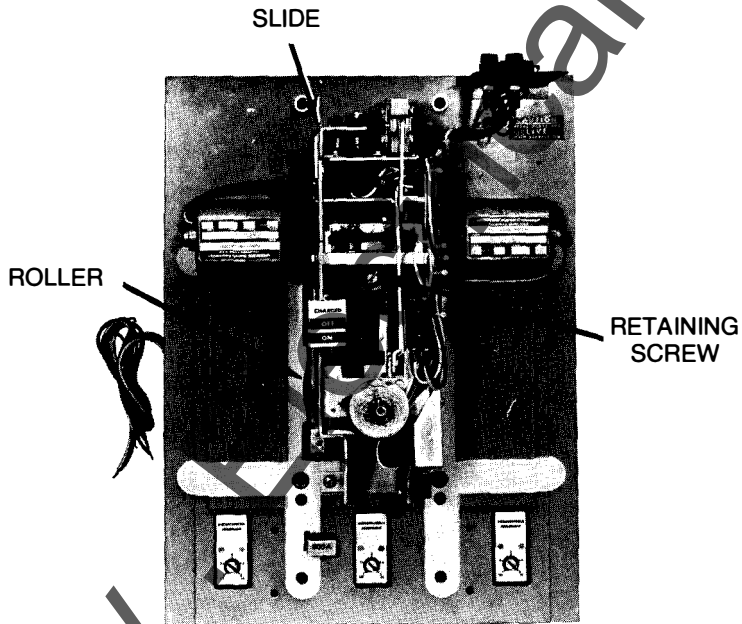

Figure 24.
Unscrew the inner cover retaining screw, Figure 24, and remove the inner cover assembly from the breaker base.
- a. Slide the inner cover and motor-power unit assembly onto the breaker base and mechanism. Ensure correct alignment of the handle shafts (cam shaft and extension shaft) and that reset arms engage the grooves in the rollers shown in Figure 24 and 25.
- b. It may be necessary to pull the slide shown in Figure 24 towards the top of the breaker to help the indicator lever slide by mechanism reset fork allowing the inner cover assembly to seat properly.
- c. Tighten the inner cover retaining screw shown in Figure 24.
- d. Install the breaker outer cover (4 screws). See Figure 9. Be sure that the terminal board slides into the slots in the circuit breaker cover. See Figure 24.